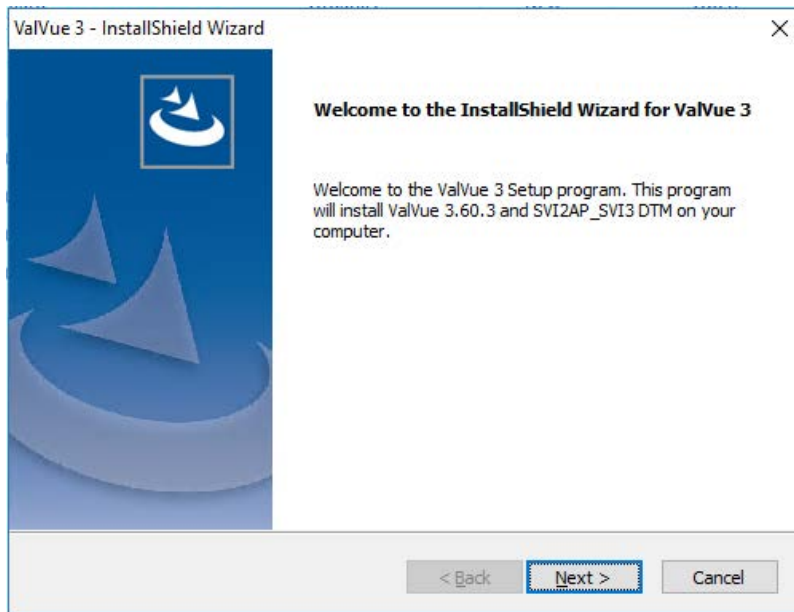

Figure 4 ValVue Install Welcome
3. Click **Install** and Figure 4 appears.